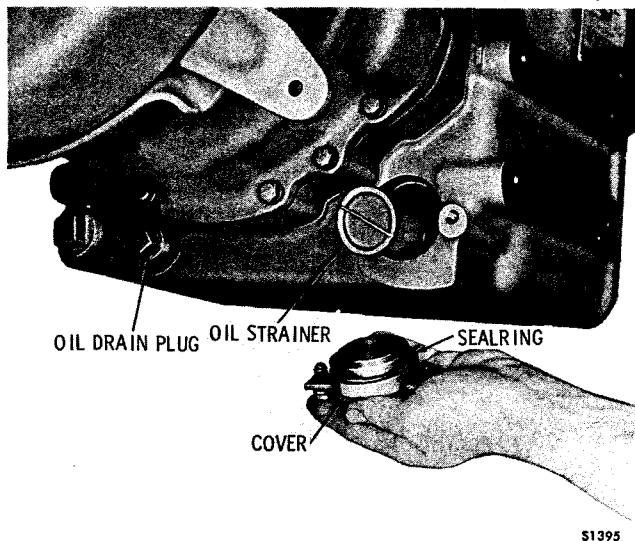

Fig. 5-3. Removing oil strainer and gasket (-3 model)
(2) On -3 model transmissions, remove two bolts and lockwashers which retain the strainer cover. Remove the cover and sealing (fig. 5-3). Remove the strainer. Remove the oil drain plug.